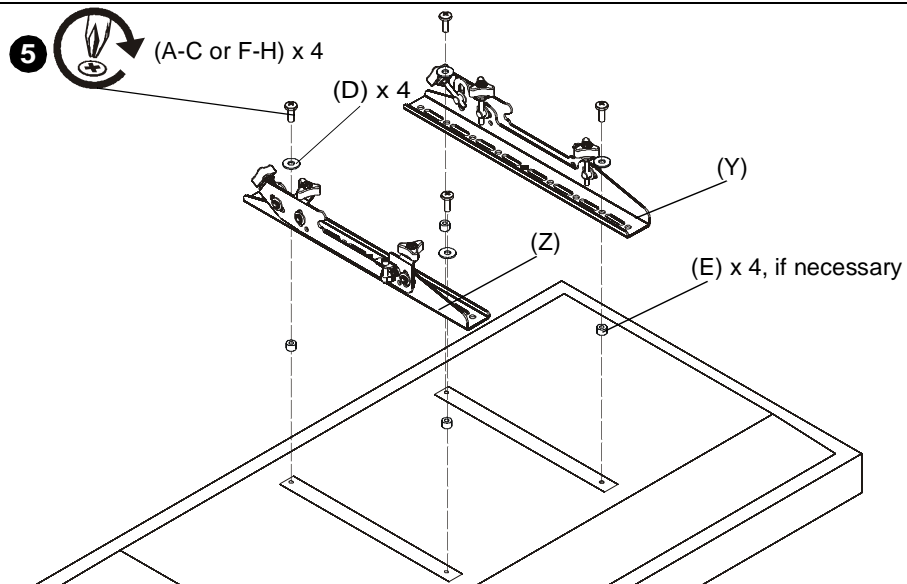

Figure 12
2. Select screw *diameter* by examining hardware (A-C and F-H) (6mm or 8mm) and comparing with mounting holes on display. (See Figure 12) or (See Figure 13)
- If mounting holes are recessed, or if protrusions prevent brackets (Y and Z) from laying flat, then spacers (E) must be used.
4. Select screw *length*: (See Figure 12) and (See Figure 13)
- Using your hand, insert **SHORTEST** length screw of selected diameter (A or F) through 1/4" washer (D), bracket (Y or Z), selected spacer (E, if required), into display mounting hole. Do **NOT** thread screw into hole at this time.
5. Use selected screws (A-C or F-H), washers (D) and spacers (E), if necessary, to connect interface brackets (Y and Z) to back of display. Make sure diamond on interface brackets is even with center of display. (See Figure 12)